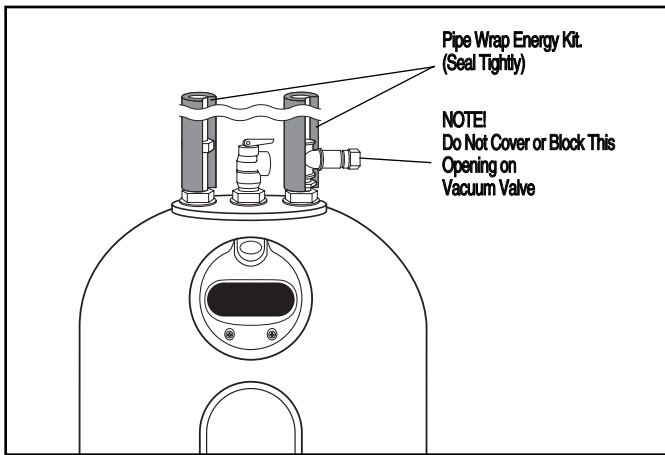

Figure 9 — Pipe Wrap Energy Kit
8. **PIPE WRAP ENERGY KIT** — A pipe wrap energy saving kit consisting of two lengths of foam insulation is included with this water heater. To realize maximum energy savings, all exposed pipes should be insulated. However, most of the energy losses occur close to the water heater. This kit is designed to minimize this loss. Install one piece of insulation on the cold water supply line and the other piece on the hot water line. (Refer to Figure 9). Install the pipe wrap as close to the water heater as the installation allows. Make sure fittings are covered and the joint in the pipe wrap is sealed.